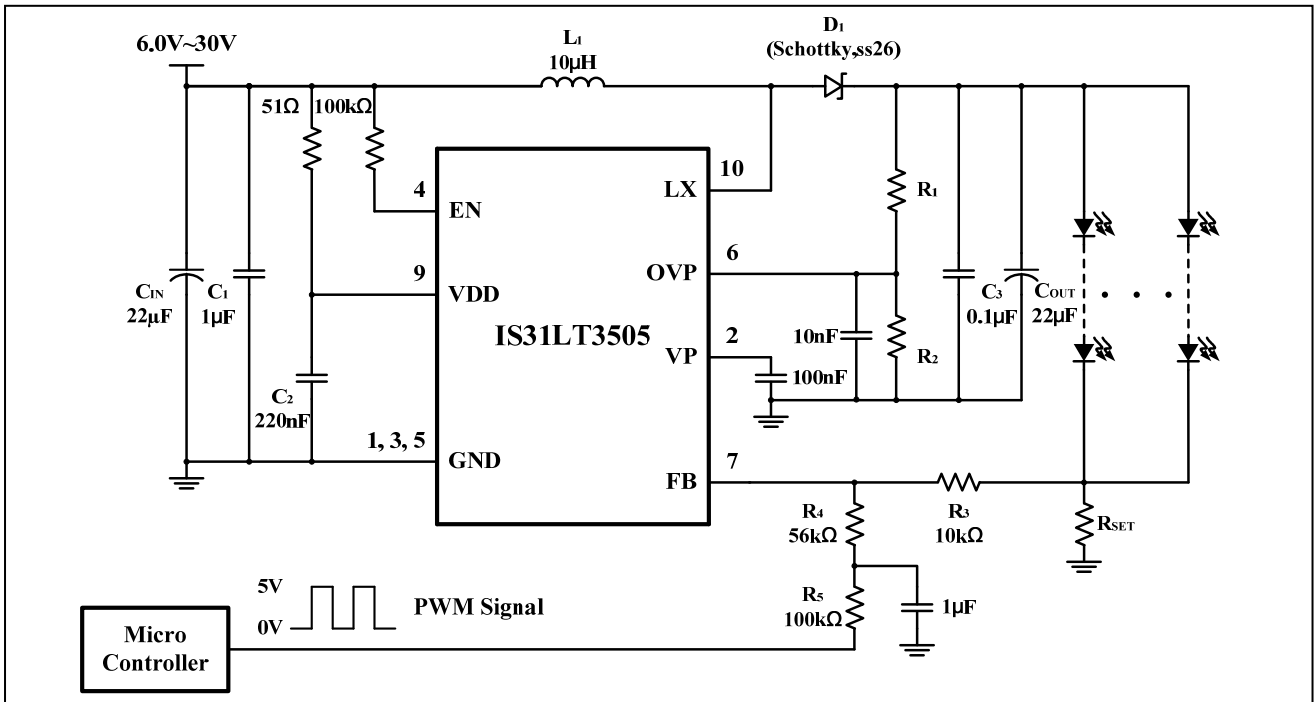

Figure 15 Application Circuit (Constant Current to Drive White LEDs With PWM Dimming)
A filtered PWM signal acts as the DC voltage to regulate the output current. The recommended application circuit is shown as Figure 15. In this circuit, the output ripple depends on the frequency of PWM signal. For smaller output voltage ripple, the recommended frequency of 5V PWM signal should be above 2kHz. To the fixed frequency of PWM signal and change the duty cycle of PWM signal can get different output current. The LED current can be calculated by the Formula (3). The internal feedback voltage  $V_{FB}$  is 0.3V (Typ.).
When it's the 5V PWM signal, the value of R3 should be 10kΩ. Refer to Figure 15.